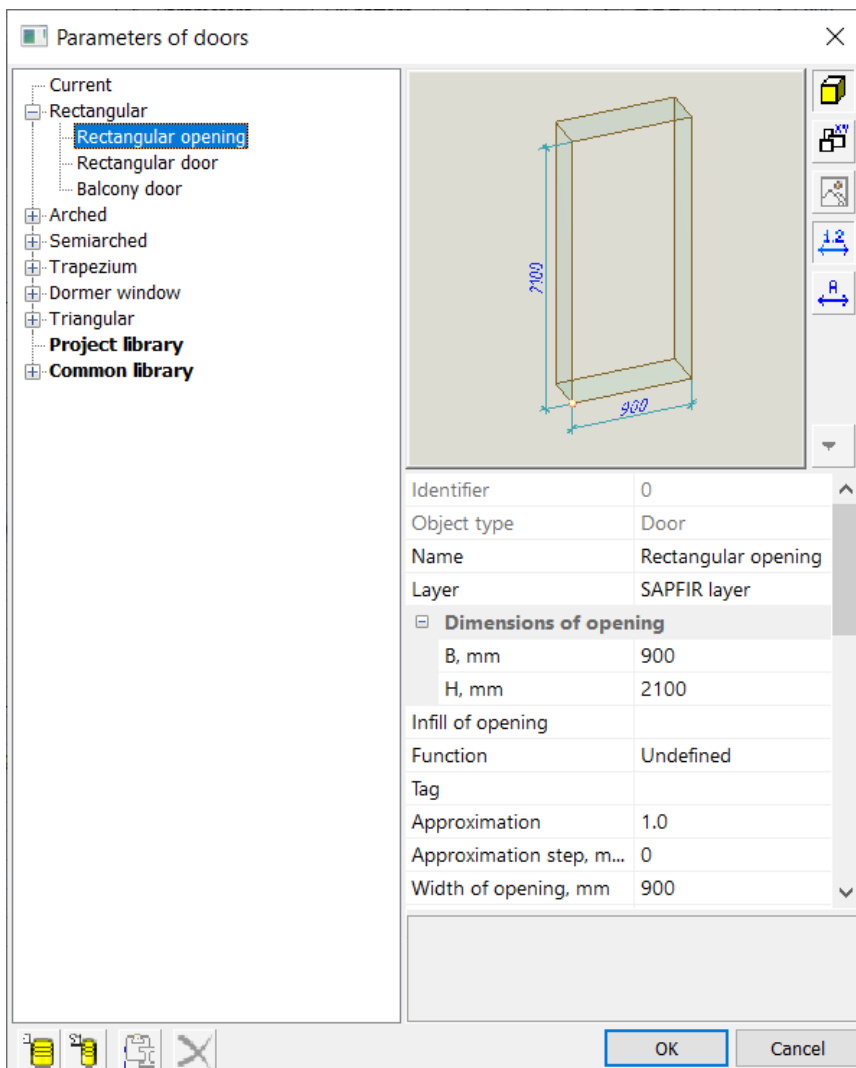

Figure 23.9. Parameters of doors dialog box
- ⇒ In the **Parameters of doors** dialog box (see Fig. 23.9), define the following data: